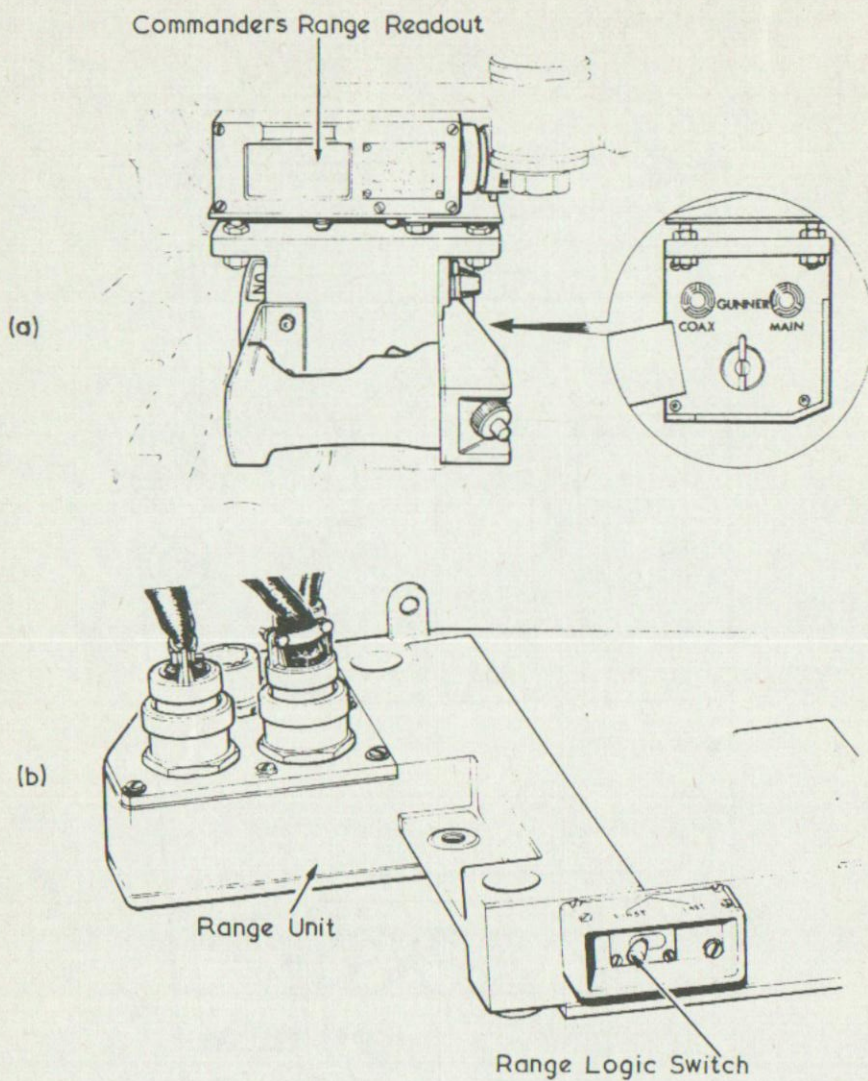

Fig 40 – Commander's range readout and the range unit
- d. *Commander's range readout.* Included in the No. 1, Mk 2 and No. 3, Mk 1 equipment is a commander's range readout display located to the front of the commander, below the cupola. (See Fig 40.)
- e. *Range unit.* This is included in the No. 1, Mk 2 and No. 3, Mk 1 sight equipment and is situated on the turret sill to the right of the gunner. Positioned on the range unit is the range logic selector switch; it is marked FIRST and LAST. (See Fig 40.)